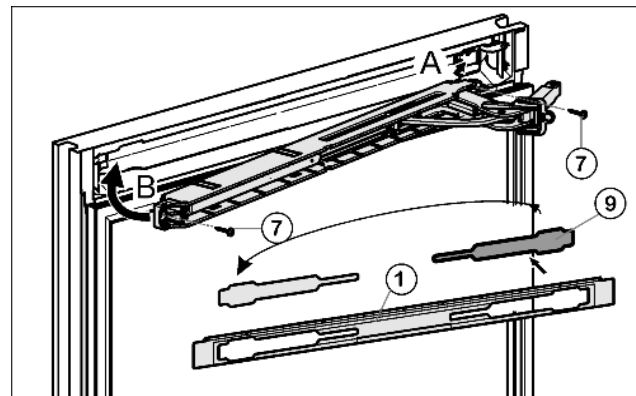

Fig. 16
- ▶ Remove the cover Fig. 16 (9) from the faceplate Fig. 16 (1) and re-insert it at the other side.
- ▶ Engage the upper soft stop unit with the joint on the hinge side (A) and swivel into place (B).
- ▶ Screw down the soft stop unit (2x Torx 15 Fig. 16 (7)).